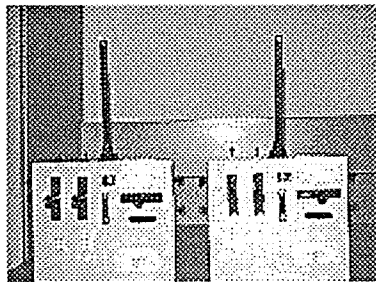

Fig.3.1 The Ace Nautical Commanders
3.1 R/C Controllers. These are radio-control transmitters that are used to send motion and camera-control commands to the AHSR vehicle. These transmitters are commercially purchased from ACE R/C. The model used is called the Nautical Commander, because it was designed for radio control of model boats. They operate in the FM R/C band in the vicinity of 75 MHz. Two Nautical Commanders are required to control all functions of each AHSR vehicle. One controls forward and backward motion, turning and actuating the solid and liquid sample-retriever mechanisms. The other controls functions of the on-board video camera. A pair of these controllers are shown in Fig. 3.1.